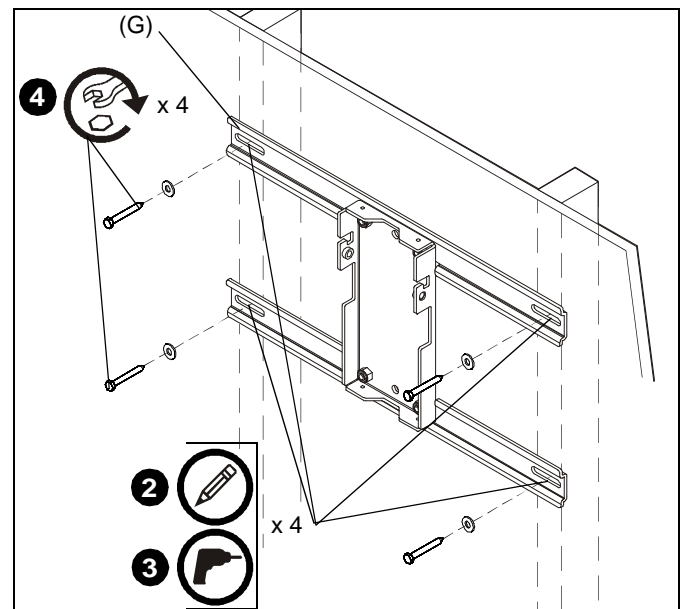

Figure 3
3. Drill four 7/32" holes at marked locations in wall. (See Figure 3)
4. Install four Grade 2 or better 5/16 x 2-1/2" hex head lag screws (not included) through four Grade 2 or better 5/16" washers (not included), holes in stud brackets (G) and into four drilled holes. (See Figure 3)